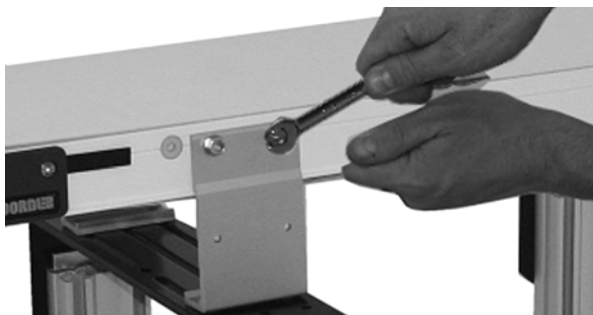

Figure 8
3. Hand tighten the screws to secure (Figure 8). Recommended torque is 150 in.lbs (17 Nm).